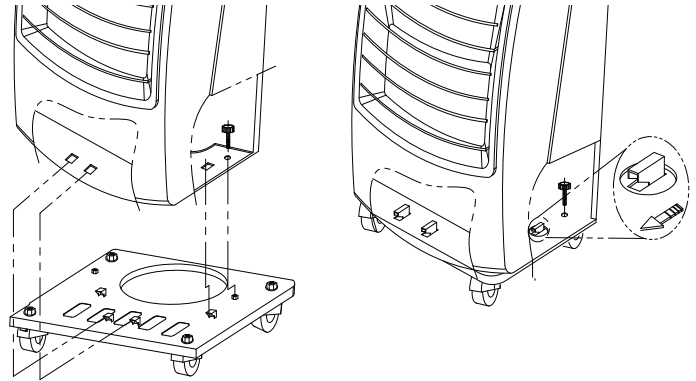

Figure 2. Removing/Replacing Bottom Plate
- Line up holes in bottom of heater cabinet with locking tabs on top of base (see Figure 2)..